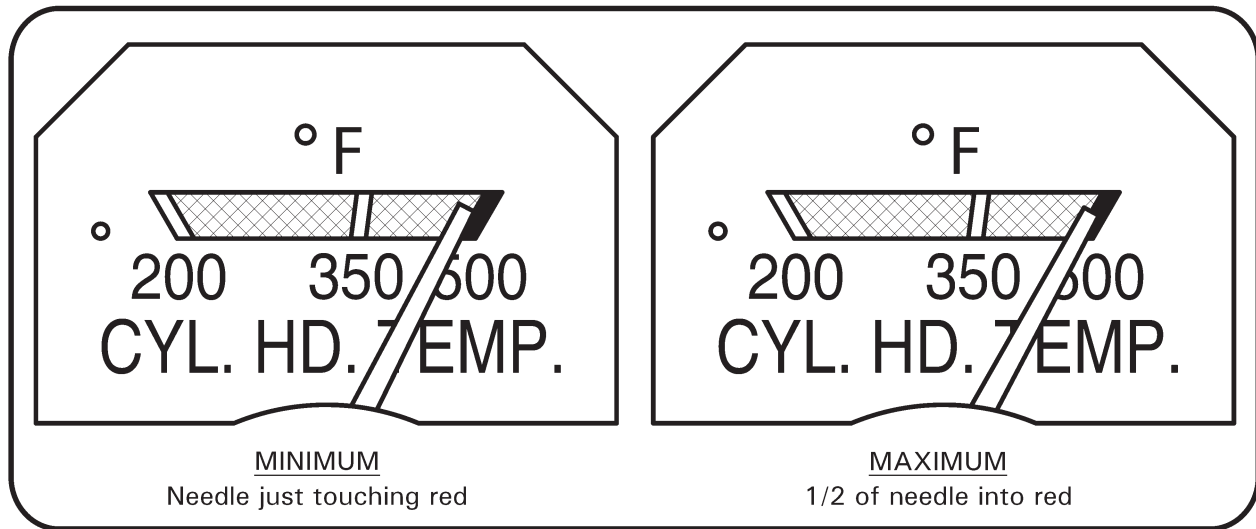

FIGURE 13-3 CYLINDER HEAT TEMPERATURE GAGE CALIBRATION
6. Refer to Figure 13-3. Push in GAGES 2-amp circuit breaker. Turn battery switch on and observe CHT gage. Adjust potentiometer screw on C691-1 circuit board assembly until gage indicates within limits shown with console in closed position (CHT probe resistance is 32 ± 0.4 ohms at 500° F).